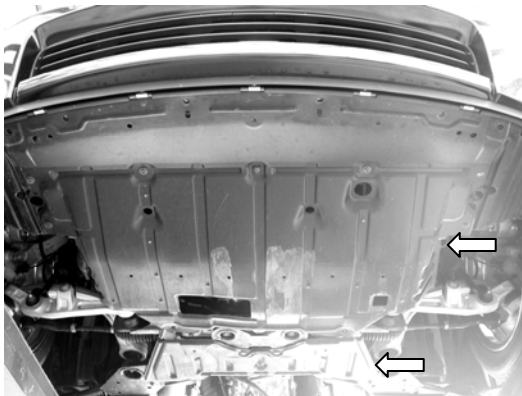

Figure 1
3. Remove plastic covers shown in figure 1 from vehicle. This does not absolutely need to be done but gives you a better view of the exhaust manifolds and hardware. You may leave them on if you choose to do so.
10. Install plastic covers shown in figure 1 using the original hardware.